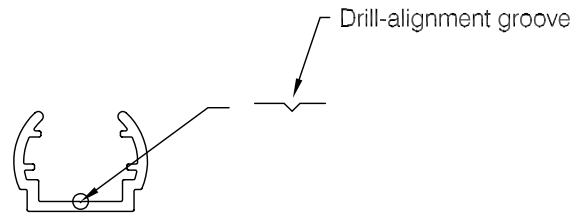

fig 2
- Note:* Use groove in retainer to locate centerline for drilling, see **fig 2**.